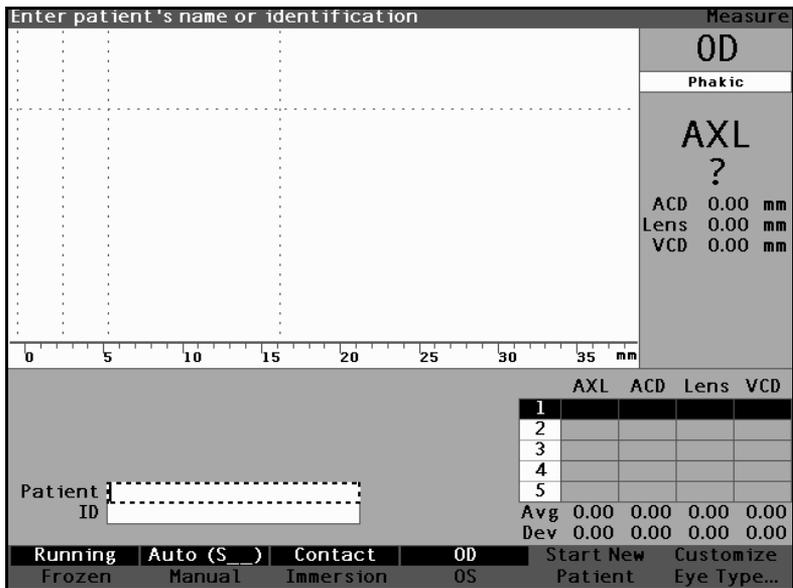

Figure 20 Patient Field Activated
3. If you wish to enter a Patient Name select the Patient field and press the knob or the  $\sqrt{\quad}$  button to activate the field as shown in Figure 20 below.